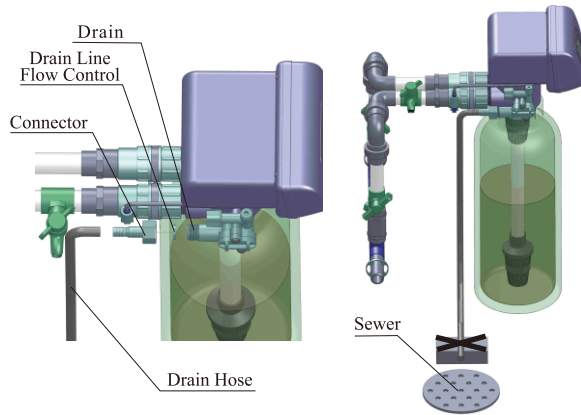

Figure 1-4
- a. As the Figure 1-4 shows, slide the drain hose connector into drain outlet.
d. Locate the drain hose well as the Figure 1-4 shows.